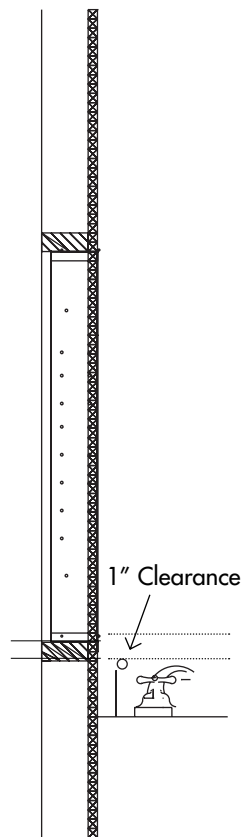

FIG 2
3. **IMPORTANT:** Locate medicine cabinet at correct height. Make sure there is at least  $1"$  of clearance above any obstructions (Fig 2).